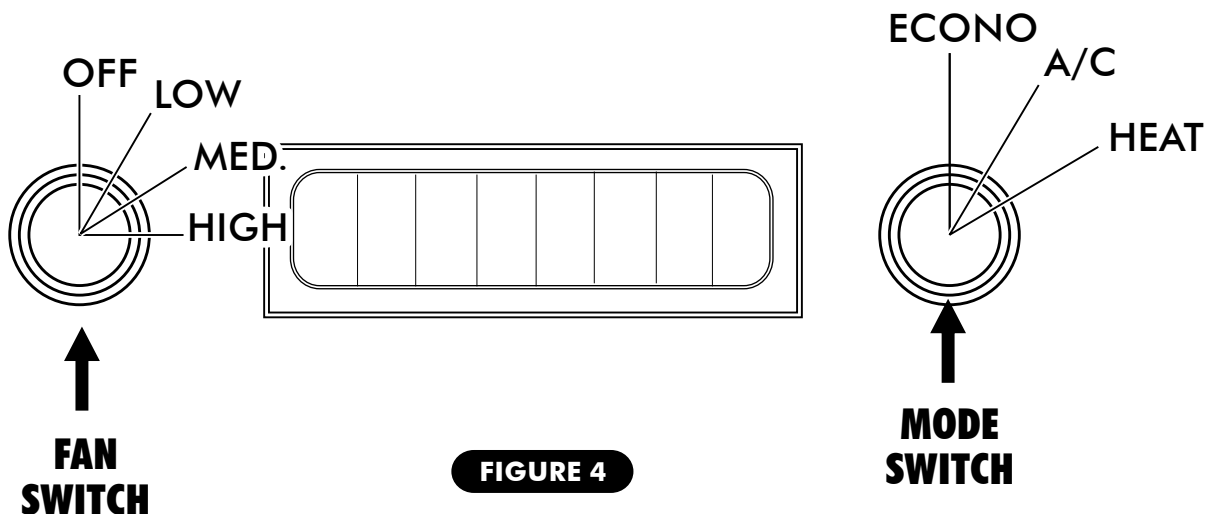

FIGURE 4
IF YOU ARE USING AN OPTIONAL CONTROL PANEL, REFER TO THE INSTRUCTIONS FURNISHED WITH THE PANEL FOR OPERATION. CHECK OPERATION (SEE FIGURE 4).
- START ENGINE AND RUN, UNTIL NORMAL OPERATING TEMPERATURE IS REACHED. PLACE SWITCH IN HEAT POSITION (SEE FIGURE 4, PAGE 8), AND SELECT FAN SPEED DESIRED. THE SYSTEM WILL HEAT THE VEHICLE. **IMPORTANT: (BE SURE THE ENGINE THERMOSTAT HAS OPENED, AND THE APPROVED ANTIFREEZE MIXTURE HAS BEEN CIRCULATED THRU THE HEATER CORE BEFORE TESTING THE A/C MODES).**